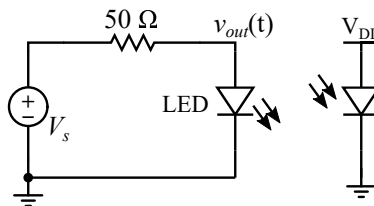

Figure 3: LED transmitter circuit.
- Connect the photodiode to another DC supply (Fig 3) with the ammeter in series to measure the current (Use the $+25\ \text{V}$ channel for the diode and leave the LED supply on the $+6\ \text{V}$ channel.)